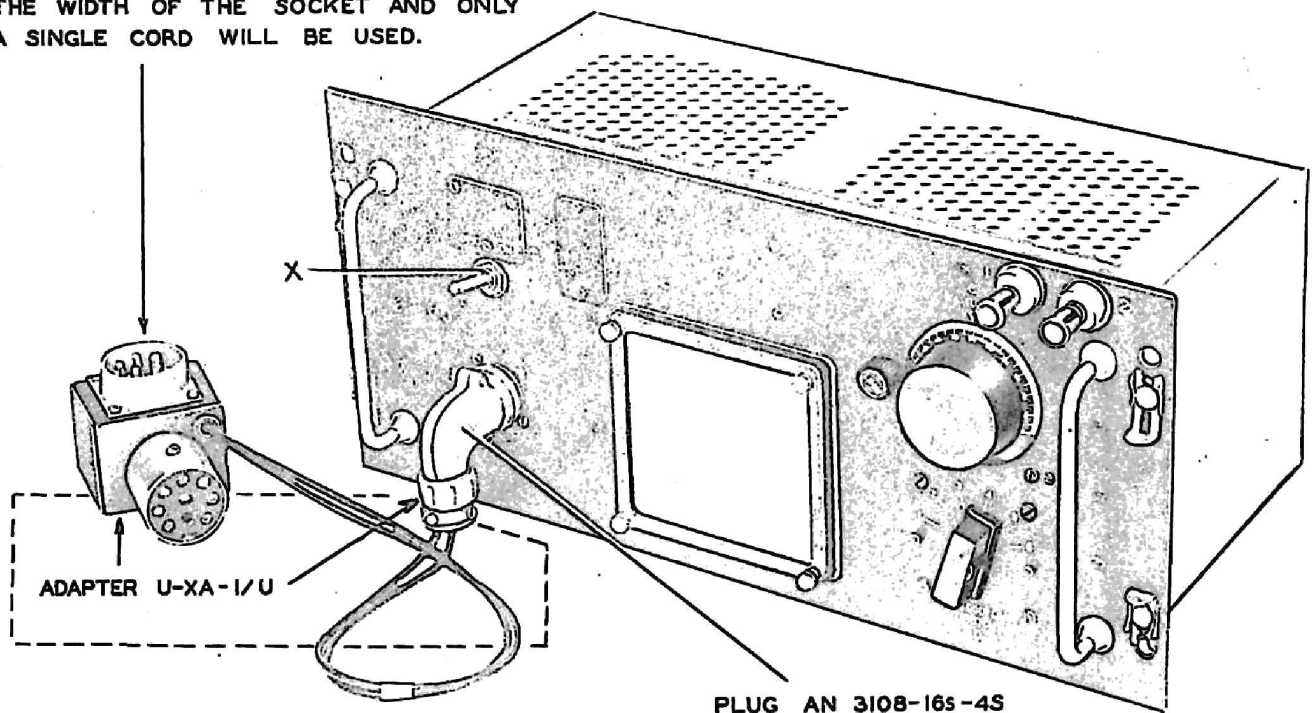

Figure 1—Transmitter Tuning Unit TU-60 and Adapter U-XA-1/U, Exterior View
a. Transmitter Tuning Unit TU-60 (fig. 1) is designed for use in aircraft, or on the ground, in conjunction with Radio Transmitter BC-191-(*) or
b. Place switch "X" in the "ON" position. (See fig. 1.)